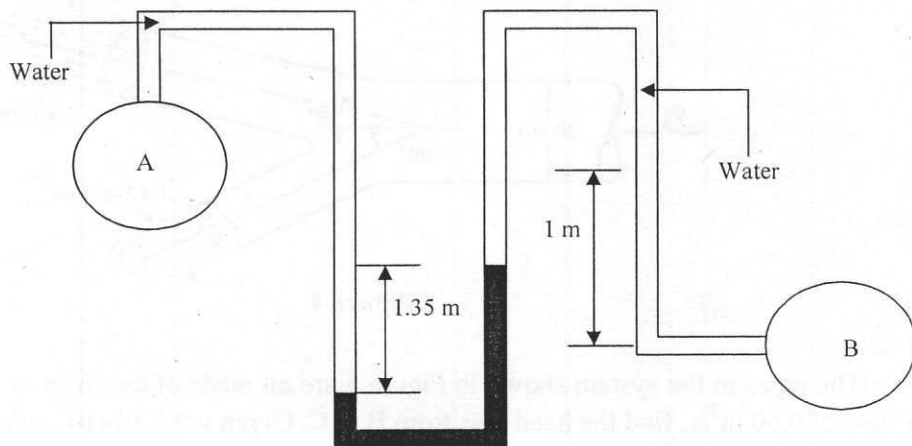

Figure 2
- (c) Define "Absolute Pressure." Calculate the pressure difference between point A and B of Figure 2. Given specific weight of water is 9.81 KN/m^3 . (1+4 =5)